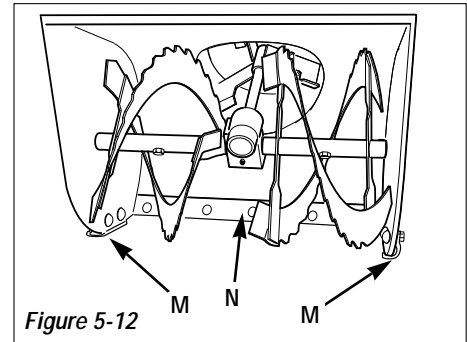

Figure 5-12
The unit should be adjusted so the collector (auger/impeller) housing and the scraper blade (N, Figure 5-12) are 1/8" (3 mm) above the surface to be cleared. If the unit is used to clear gravel or uneven surfaces, this adjustment should be increased so gravel or other foreign objects are not scooped into the auger. To adjust the collector housing/scraper blade height:
2. With the engine stopped and the spark plug wire disconnected, loosen the hardware securing the skid shoes (M, Figure 5-12).
4. Tighten the hardware to lock the skid shoes (M, Figure 5-12) into the proper position.
5. The scraper blade (N, Figure 5-12) can also be adjusted. Adjust scraper blade (N) at carriage bolts. Adjust bottom edge of scraper blade so it is parallel with bottom edge of auger.